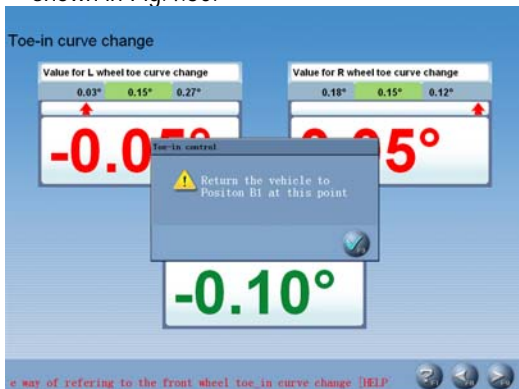

Fig.4.30
- Put down the vehicle to position B1. Adjust the vehicle front toe-in to the allowed scope according to the standard specifications. The interface is as shown in Fig.4.30: